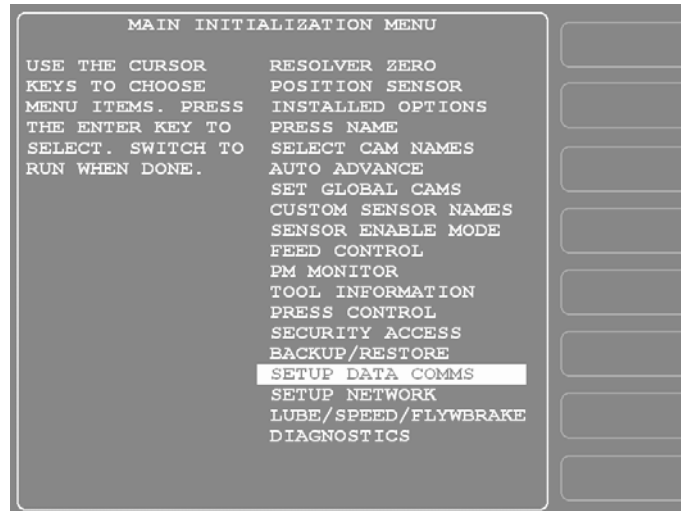

Figure 4. SmartPAC Main Initialization Menu
1. At the SmartPAC, turn the Program/Run key to “PROG,” then press the “1” and “CLEAR” keys simultaneously for a second or two until the Main Initialization Menu (see Figure 4, page 7) displays.